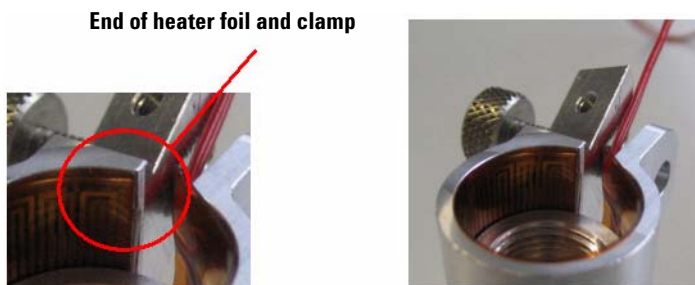

Figure 18 Heater foil, clamp and cable
- 1 Place the heater foil into the clamp (with the cable attached to the countersink). The counter sink is on the opposite side from that on which the screw is being screwing. (See Figure 18 on page 20.)